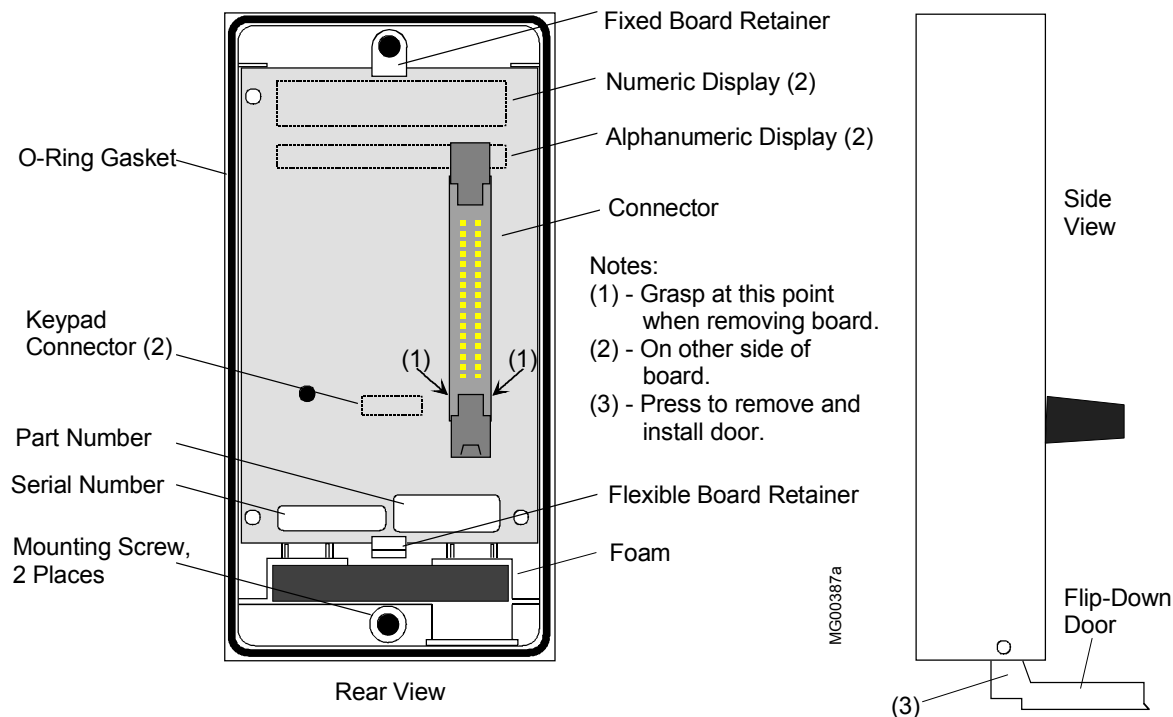

Figure 3 Local Faceplate
The following describes replacement of Procidia assemblies. Common hand tools for electronic equipment servicing are needed and a torque screwdriver, calibrated in inch-pounds, is recommended. Before handling an assembly, refer to the Circuit Board Handling section for electrostatic discharge prevention procedures. See Figure 3 for a view of the controller that shows field replaceable assemblies and individual parts.
2. The MPU Controller board may have several attached boards secured by spacers and screws. Refer to Figure 3 for board location and fasteners. Refer to the board comments above for jumpering and other information before attaching a board to the MPU Controller board.